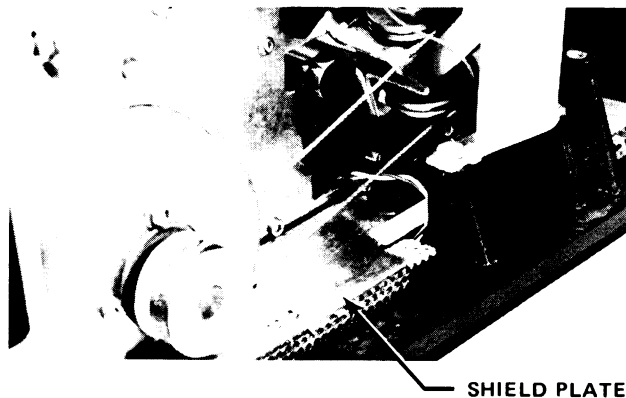

Figure 4-14. RIBBON CABLE SHIELD PLATE
- 7) Loosen the two screws holding the cable shield plate on the left side of the bottom pan (Fig. 4-14). Slide the plate forward and lift it out.